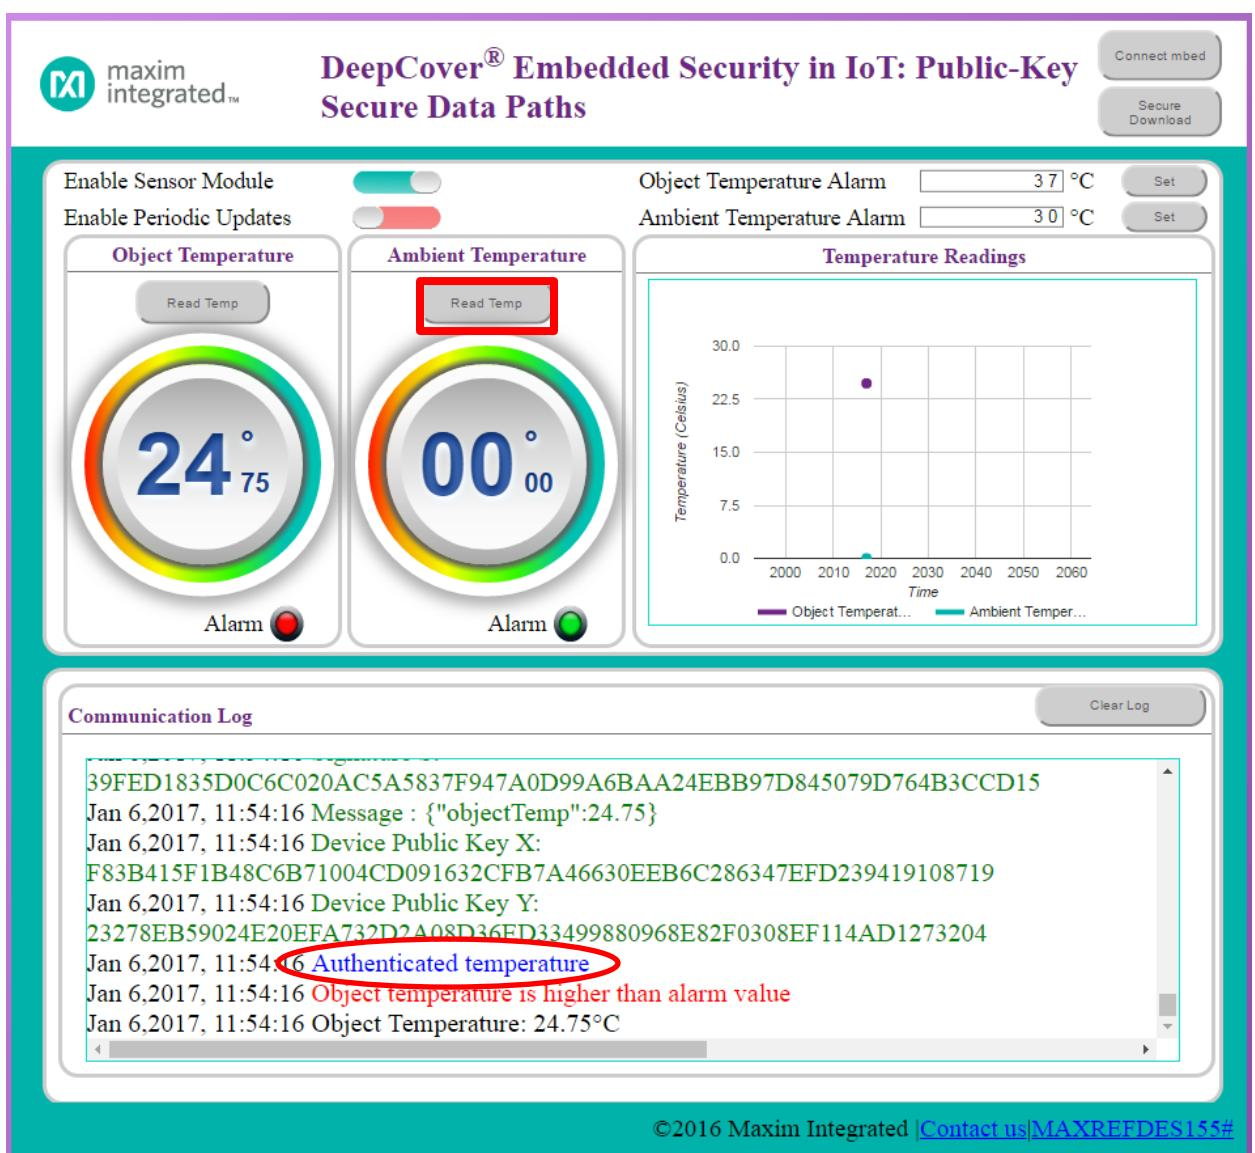

Figure 13. An authenticated temperature reading.
| Figure 13. An authenticated temperature reading..... | 12 |
2. Click on the **Read Temp** button (Figure 13) and verify a temperature was read and is authentic.